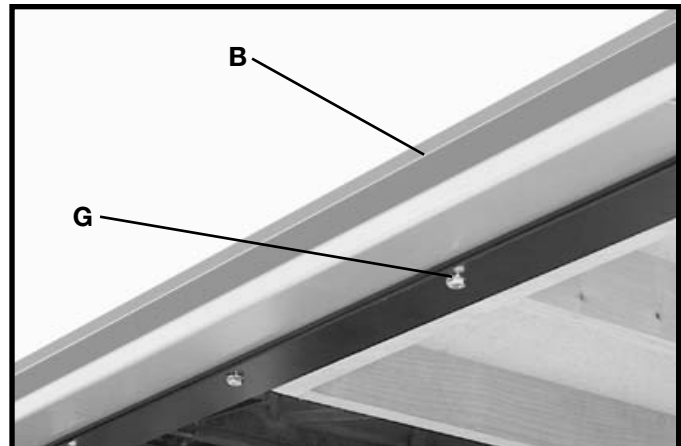

Fig. 89
13. Position the guide tube (B) Figs. 89 on the front rail and fasten the guide tube to the rail using the 1/2 long hex screws (G) and lockwashers in seven places.